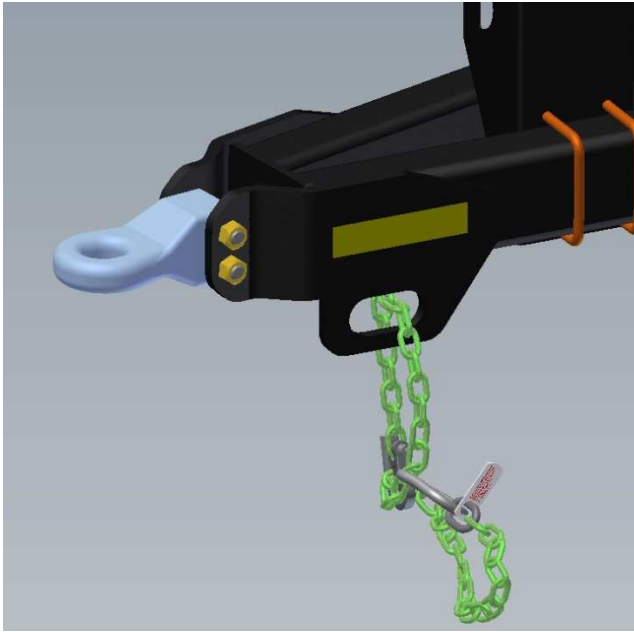

Figure 1
2. Check the tandem disc hitch for damaged, loose or missing parts (see Figure 1). Repair as needed before operation. The maximum static vertical force exerted on the towing vehicle is 1104 lbs. (500 kg).